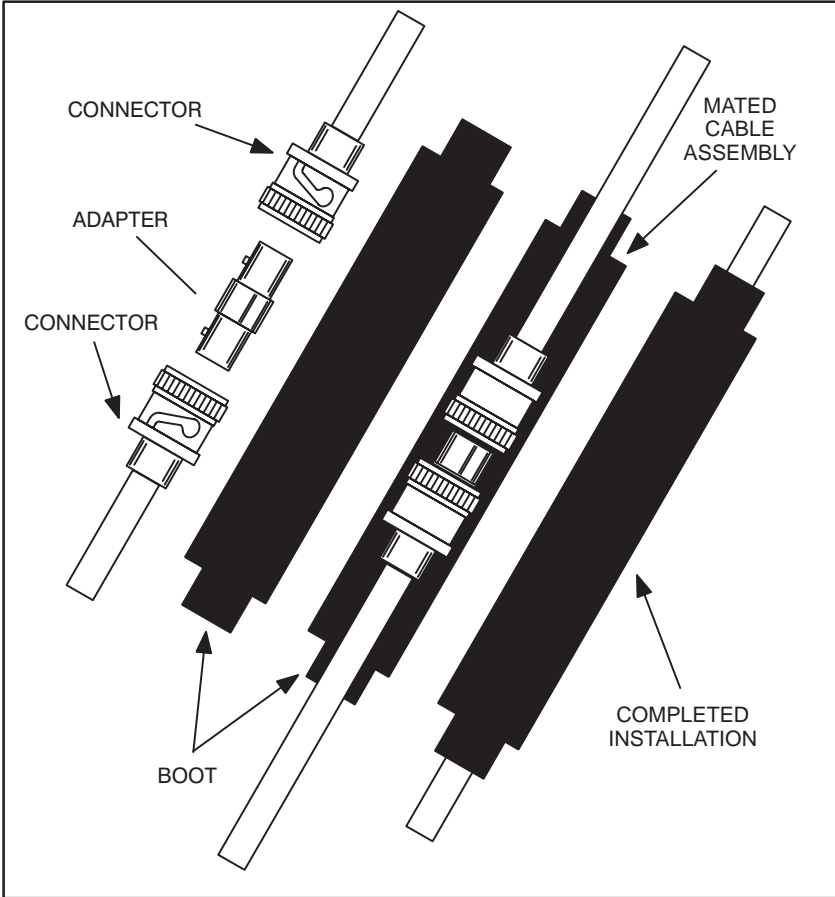

Figure 3.16 - Cable Splicing
- Step 2. Splice both parts using the jack-to-jack adapter. See figure 3.16. Ensure the splicing connection can be accessed easily.
- Step 3. Isolate the splicing connection with an insulating jacket, a boot, heat shrink tubing, or electrical sealant tape as shown in figure 3.16.